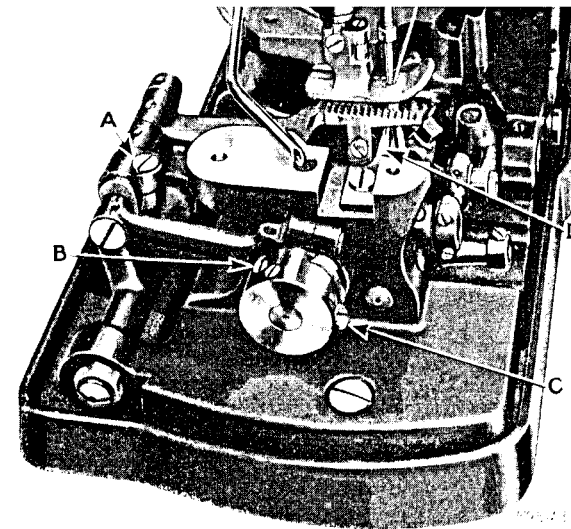

FIG. 12. ADJUSTMENTS ON THE MACHINE
The length of stitch is regulated by the large screw (C, Fig. 12) which projects beyond the body of the feed eccentric on the rotary shaft. To increase the length of stitch, loosen the lock screw (B, Fig. 12) and turn the large screw (C) over to the left or outwardly. To shorten the stitch, turn the large screw (C) over to the right or inwardly. When the desired length of stitch is obtained, securely tighten the lock screw (B).
When making long stitches, if either end of the feed dog touches the throat plate, loosen the screw (A, Fig. 12) (this screw is accessible through a hole in the top of the cloth plate) and push the feed bar in the required direction, then securely tighten the screw (A). When once correctly set, no further adjustment of the feed bar is necessary for either short or long stitches.
The needle guard (D, Fig. 12) may be adjusted slightly, according to the diameter of the needle which is being used.